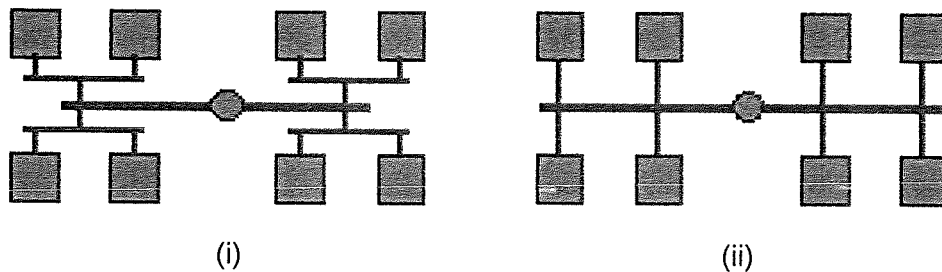

Figure 1 / Rajah 1
1. (a). Discuss critically the differences between two runner systems shown in Figure 1 below. Runner system (ii) suitable to be used in certain condition. Explain by giving example for runner system (ii).